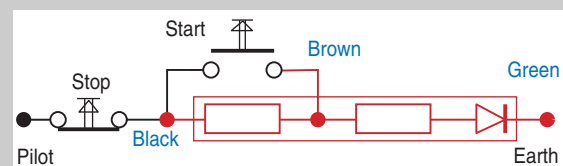

Fig 6
- A 3-wire Module used for loop wire sensing and remote control. External Start and Stop buttons must be added to control the remote contactor, refer to Fig 6. Physical dimensions of the 2-wire and 3-wire modules are identical and are shown in Fig 7.